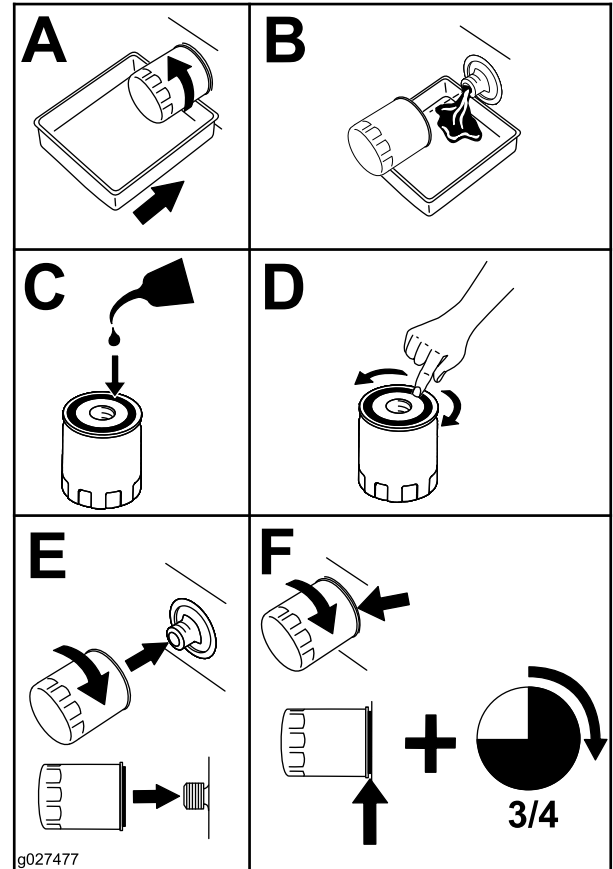

Figure 41
2. Change the engine-oil filter (Figure 41).